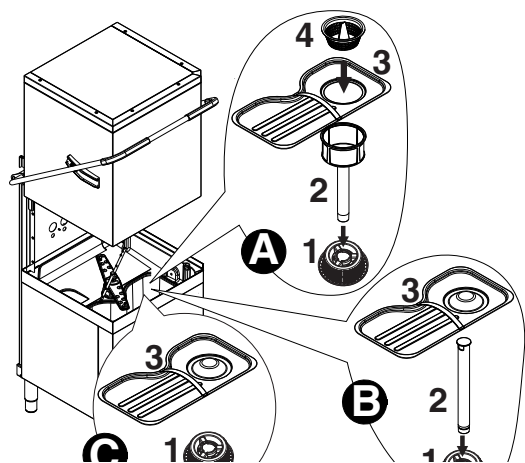

Figure 31 Filters and overflow
- **In versions without supplementary filtering system (FS) ("B" - Figure 31).**
- **In versions with supplementary filtering system (FS) ("A" - Figure 31).**
- **In versions with automatic hood and supplementary filtering system (FS) ("A" - Figure 31).**
- Replace the filter and the overflow (Figure 31).